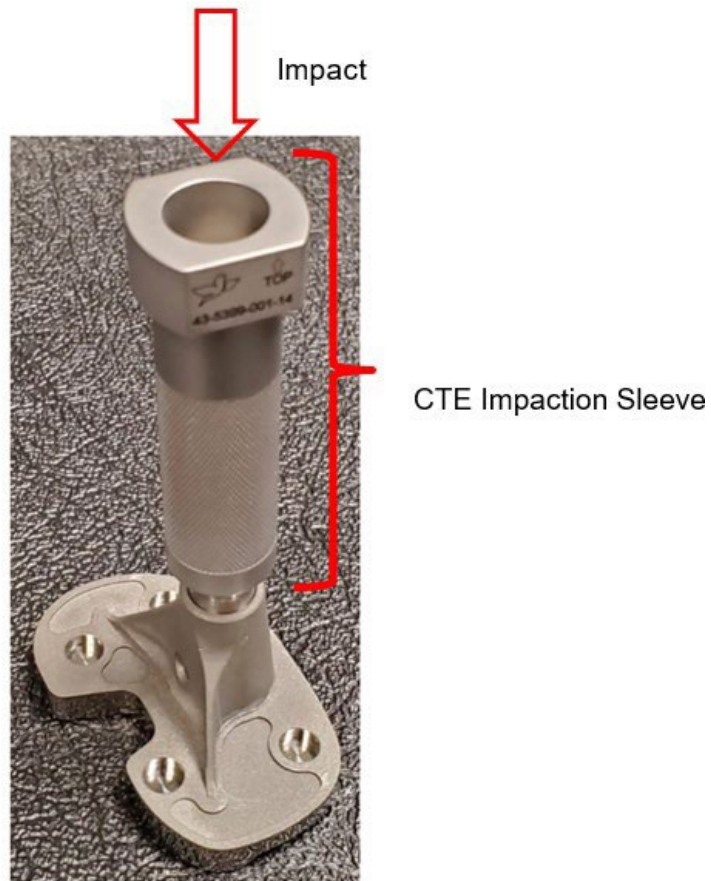

Figure 33
6. Place the Impaction Sleeve over the CTE Implant and Tibial Plate assembly until the Impaction Sleeve stops on the CTE Implant. Impact on the Impaction Sleeve with a two- pound mallet solidly multiple times until the CTE Implant is fully seated in the Persona Tibial Plate (**Figure 33**).